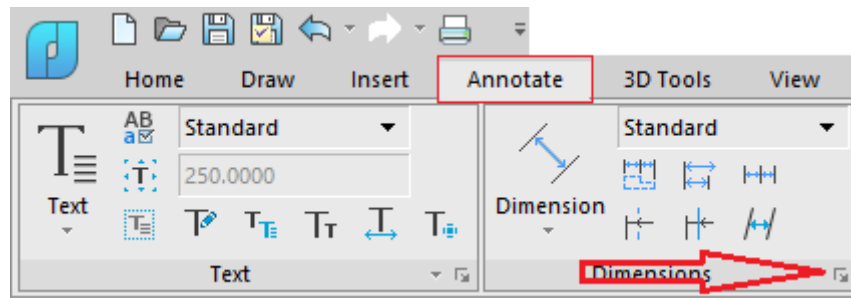

Fig. 33. Run the **Dimension Style Manager**
3.3. Set the dimension style. Click on the **Design** tab and open the **Dimension Style** dialog box (fig. 33):